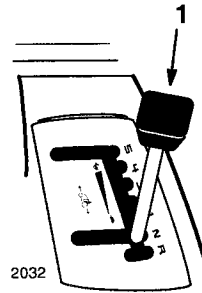

Figure 8
3. Move the ground speed selector into neutral "N" (Fig. 8).